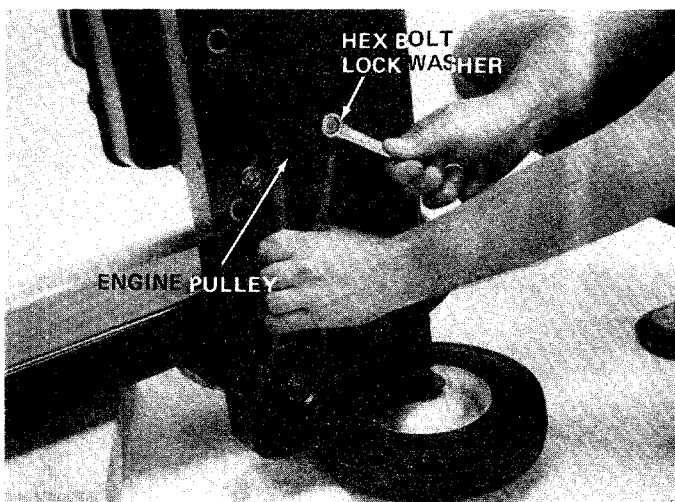

FIGURE 19
5. Using a 9/16" wrench, remove the engine pulley by removing the hex bolt and lock washer. See figure 19. Slip the pulley and belt off.